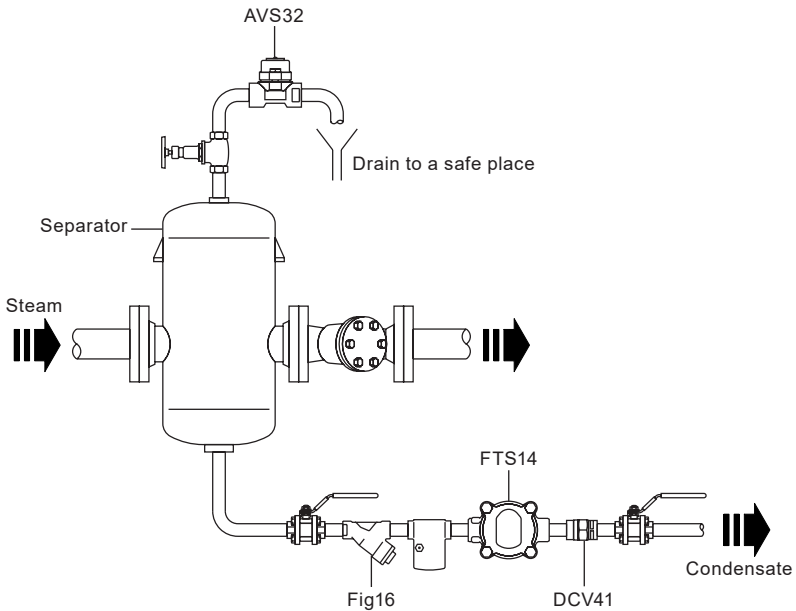

Fig. 2
- 3.4** The AVS32 should be installed with the capsule in a horizontal plane with the cap at the top, and be positioned at the highest point of the main, or plant where the air collects. For maximum removal of air the discharge should be as free as possible, piped to a safe location (see Figure 2).